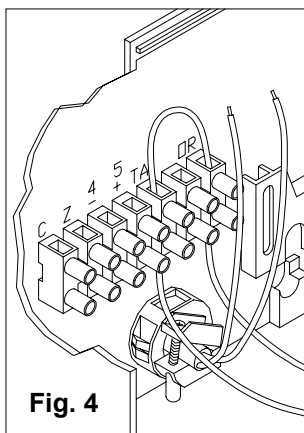

Fig. 4
- B. Move the bridge PT (see fig.4) from terminal TA to the free one next to it.